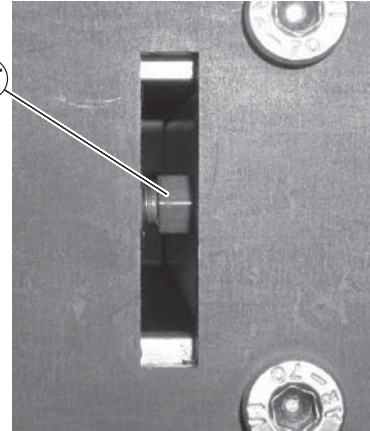

**Figure 30**
2. On the side of conveyor to be adjusted, loosen two (2) tail clamp screws (Figure 30, item T).